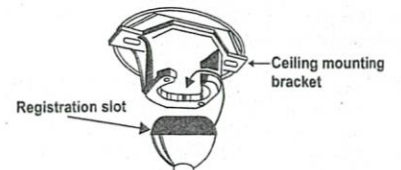

Figure 8
Step 9. Place downrod ball rubber cover onto the downrod ball. Place the downrod ball into the mounting bracket socket and ensure the groove (registration slot) on the downrod ball is seated on the tab of the bottom of the mounting bracket socket. (Fig. 8)